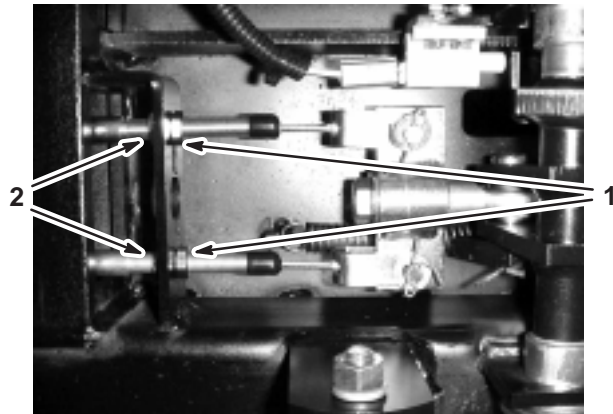

Figure 44
3. Loosen the front nuts on the brake cables under the front end of the sprayer (Fig. 44).
4. Tighten the rear nuts equally until the brake pedal moves between 1/2 to 1 inch (1 to 2 cm) before resistance is felt (Fig. 44).